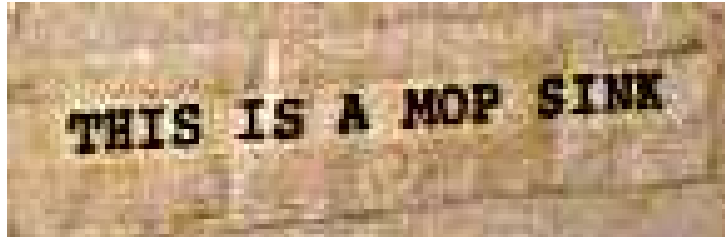

Figure 2.11: A close-up of the label. It reads “This is a Mop Sink”. [Photograph courtesy of Baddesigns.Com [Darnell 2010].]
- The label says "This is a Mop Sink", see Figure 2.11.